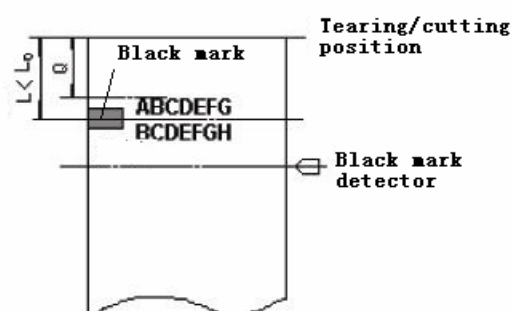

Figure 7-3
2. (1) When the distance L of the tearing/cutting position offset from the black mark is less than the inherent mechanical value L_0 of the printer (shown as figure 7-3), the calculation of tearing/cutting position offset is shown as follows: